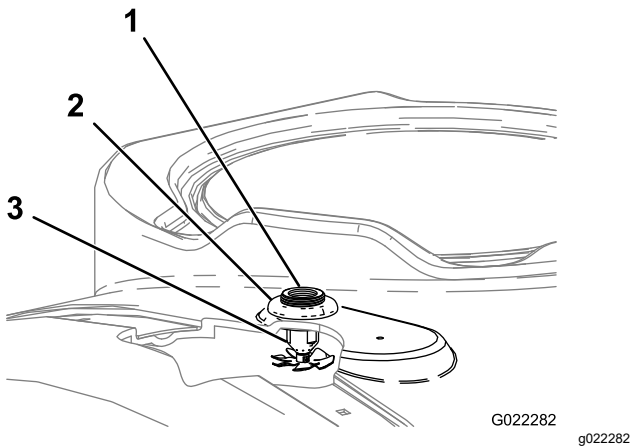

Figure 5
2. Install the nozzle assemblies up through the drilled holes (Figure 5).
3. Install the plastic flange nut over the exposed threads of the bulkhead on top of the tank (Figure 5). Ensure that the seal is seated correctly between the bulkhead fitting and the underside of the tank.